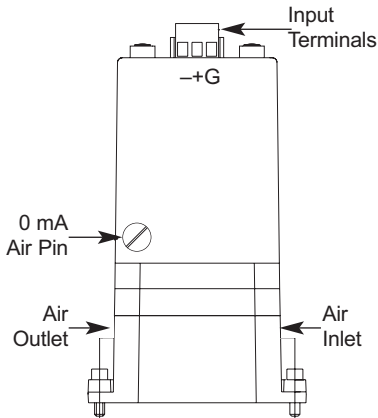

Figure 1.
7. Using Figure 1, locate the 0 mA "Air Pin."